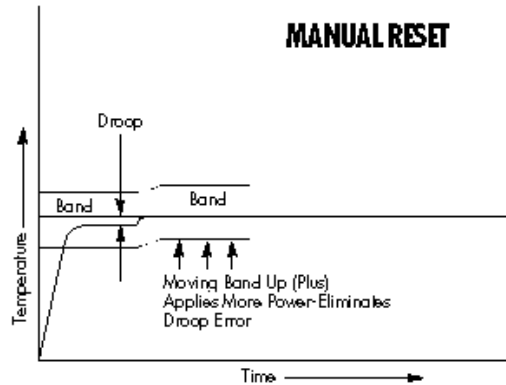

Figure 5.
- a) Manual Reset. **Figure 5.** Allows positioning the band with respect to the setpoint so that more or less power is applied at setpoint to eliminate the offset error inherent in proportional control.